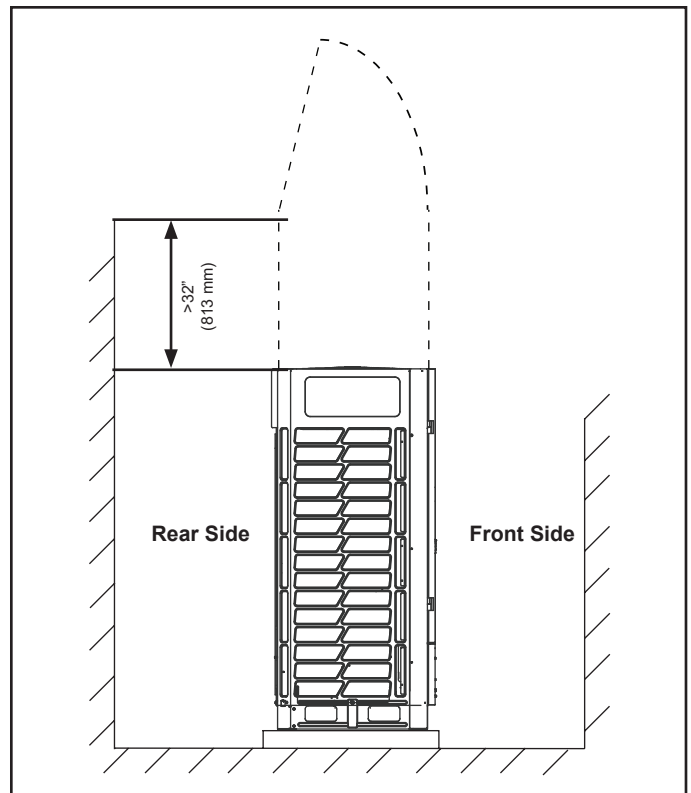

Figure 3. Perimeter Obstructions
- Perimeter obstructions that are 32 in. (813 mm) taller than the top of the outdoor unit require a field supplied air discharge duct to avoid recirculation of discharge air. The discharge duct should be installed to at least the height of the surrounding obstructions (for ex. walls) to ensure that discharge air goes over the height of the obstruction. Ensure that the static capabilities of the outdoor unit are not exceeded. Figure 3.